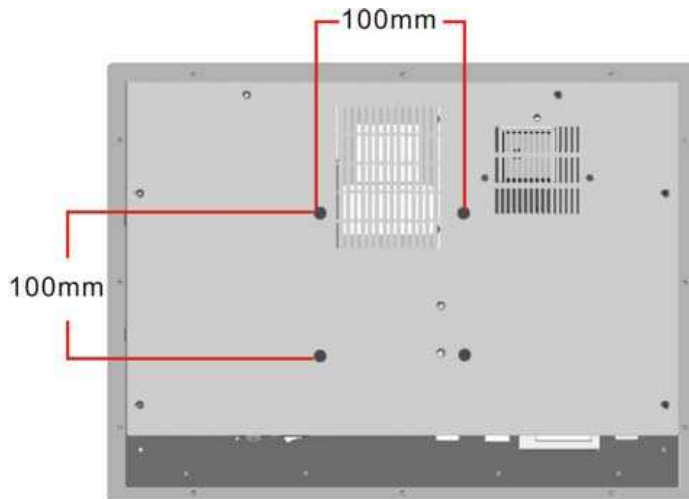

Figure 3-17: Arm Mount Retention Screw Holes
Step 3: Align the retention screw holes on the mounting arm interface with those in the IVC-15PC-P flat panel PC. The IVC-15PC-P flat panel PC arm mount retention screw holes are shown in **Figure 3-17**.